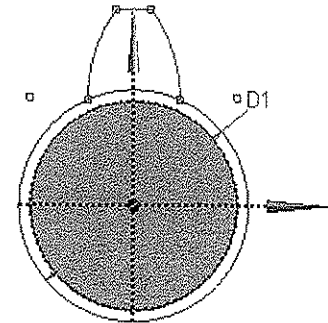

Figure 5-78 The complete sketch
14. Right-click and then choose **Paste at Plane Origin** to create a mirror of the entity across the Y axis, refer to Figure 5-78.